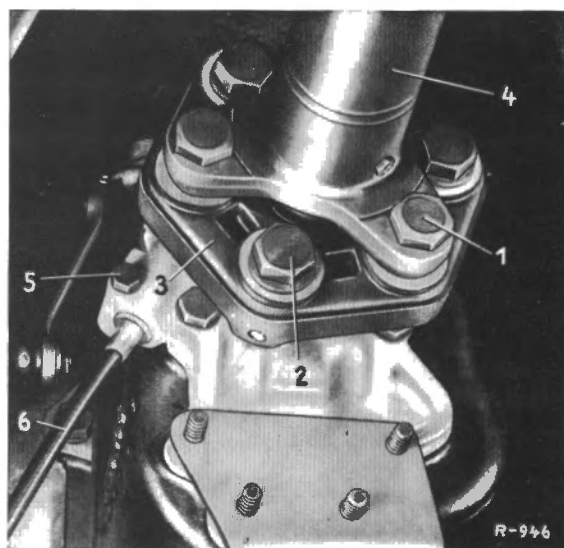

Fig. 41-1/2
- 16 Hexagon screws for fastening the support (12) to the chassis base panel
- 18 Hexagon screws for fastening the support (12) to the chassis base panel
- 21 Hexagon screws for the exhaust pipe support bracket (23)
2. Unscrew the castle nuts or self-locking nuts of the fitted screws (1) and (2) from the three-way flange of the transmission and from the shaft plate (3). Remove the screws together with the washers (Fig. 41-1/2).
3. After tapping up the locking plates (2), unscrew the hexagon nuts (3) of the four cheese head screws (1) which fasten the rear propeller shaft to the joint flange of the rear axle and remove the screws (Fig. 41-1/3).